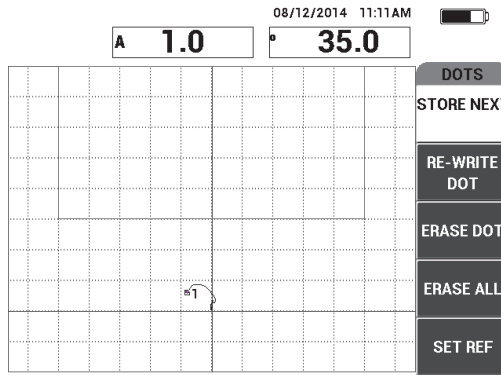

Figure 6-40 The first dot recorded
6. Press **STORE NEXT** (A key) to record the first dot (see Figure 6-40 on page 158).